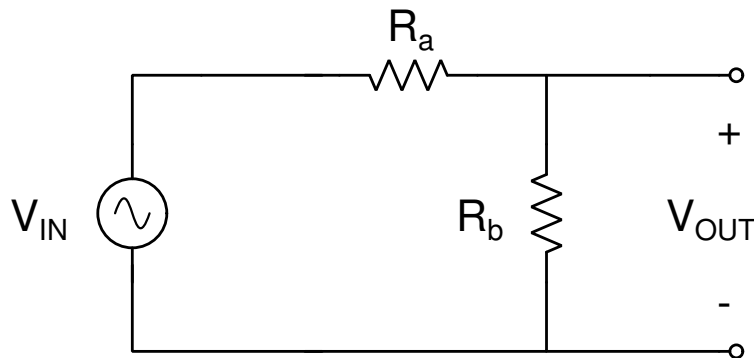
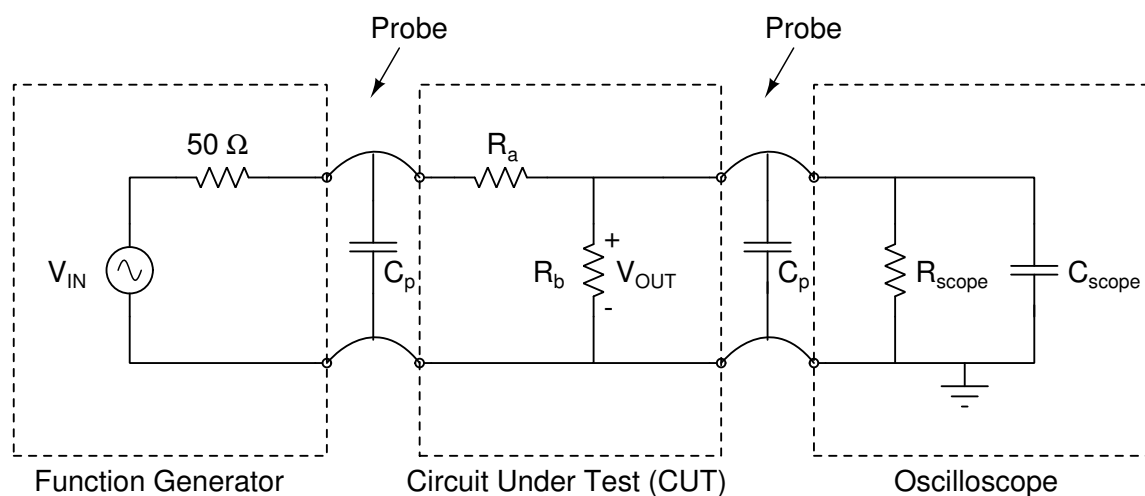

Figure 1: The circuit under test (CUT) is an ideal resistor divider circuit.
Figure 2: Measurement set-up for the resistor divider circuit.
Introduction In this lab you are to determine the voltage ratio, V_{OUT}/V_{IN} , produced by the voltage divider with resistors R_a and R_b shown in Figure 1.
This lab illustrates that the actual values of the components, and the impedances associated with the test equipment and cables, must be considered when determining the actual value of the voltage across a circuit element. All voltage sources, including batteries, have a finite source impedance. All measurement equipment, including oscilloscopes and digital volt meters (DVMs), have a non-infinite input impedance that presents a load to the circuit. Cables that connect the circuit to the test equipment introduce additional impedances in the circuit. The schematic showing the circuit under test (CUT) connected to a function generator and oscilloscope is shown in Figure 2.
4. For each of the three pairs of resistors, place two resistors with the same value on the breadboard to make a series circuit as shown in Figure 1. If the resistors have slightly different values, make sure you keep track of which resistor is which.
- Set the FG to generate a 1 kHz sinusoidal signal with peak voltage $V_{IN} = 1$ V. Verify both the frequency and peak voltage using the scope then connect the FG and scope to the resistors as shown in **Figure 2**.
For the voltage divider circuit, an estimate of the error introduced by the measurement apparatus can be obtained by comparing the values of V_{OUT} obtained from an analysis of the circuit in Figure 1, with the values of V_{OUT} obtained from an analysis of the circuit in Figure 2.
1. Derive an equation $V_{OUT1}(R)$ expressing the output voltage V_{OUT} as a function of the resistance R for the circuit of **Figure 1**. Do not include in the calculation the capacitance of the probes, the output resistance of the FG, or the input impedance of the scope.
2. Derive an equation $V_{OUT2}(R)$ expressing the output voltage V_{OUT} as a function of the resistance R for the circuit of **Figure 2**. Include in the calculation the capacitance of the probes, the output resistance of the FG, and the input impedance of the scope.
Use NGspice to simulate the expected output voltage V_{OUT} as a function of the resistance R for the circuit of **Figure 2**. Include in the simulation the capacitance of the 1X probes, the output resistance of the FG and the input impedance of the scope. A Matlab[®] template file is available on the course website at: (http://davidkotecki.com/ECE214/docs/Matlab/ECE214_2019_Lab1_B.m) and an hspc simulation file is available at: (http://davidkotecki.com/ECE214/docs/ngspice/ECE214_2019_Lab1.hspc).